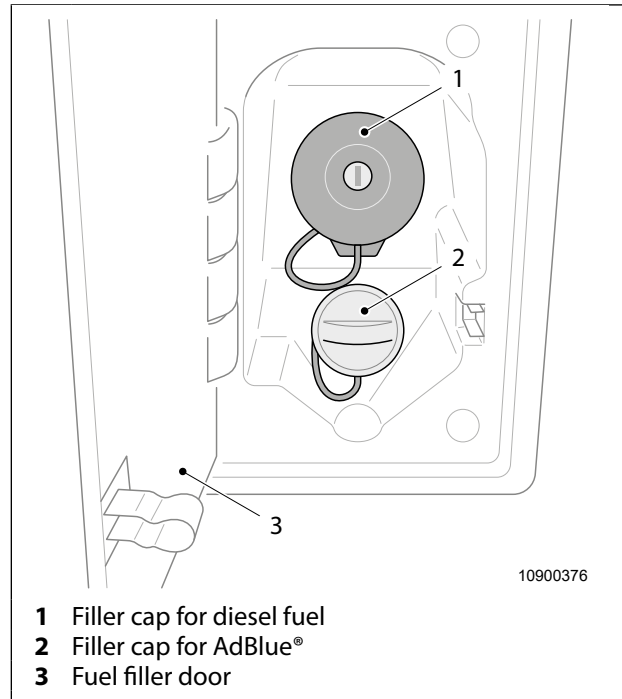

Fig. 4 Tank filler necks
The tank filler neck for diesel fuel is located behind the fuel filler door (Fig. 4, item 3) next to the driver's door.
1. Push in the fuel filler door (Fig. 4, item 3) and swing the door open.
2. Use the key to open the filler cap for the diesel fuel (Fig. 4, item 1) and screw it off.
1. Screw on tightly the filler cap for the diesel fuel (Fig. 4, item 1) and lock it with the key.
2. Press shut the fuel filler door (Fig. 4, item 3) until it snaps into place.
The tank filler neck for AdBlue® is located behind the fuel filler door (Fig. 4, item 3) next to the driver's door.
2. Screw off the filler cap for AdBlue® (Fig. 4, item 2).
1. Screw on the filler cap for AdBlue® (Fig. 4, item 2).